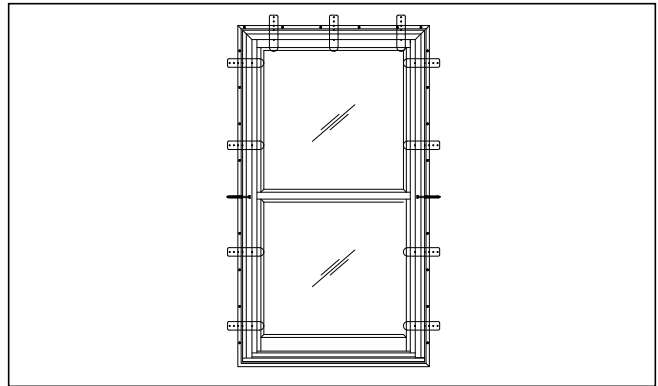

Figure 2
2. Apply installation brackets and install unit per wood unit installation instructions. See figure 2.